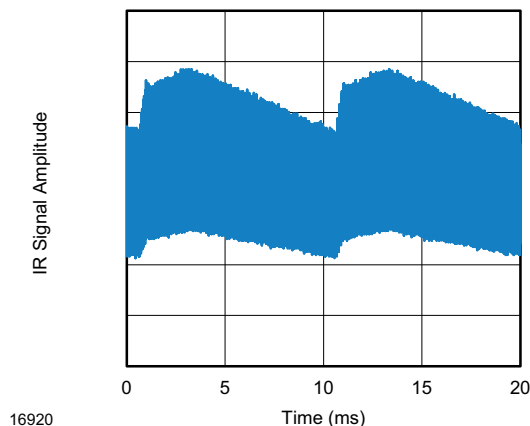

Fig. 14 - IR Disturbance from Fluorescent Lamp With Low Modulation
- Modulated IR pattern from common fluorescent lamps (example of noise pattern is shown in Fig. 14 or Fig. 15)